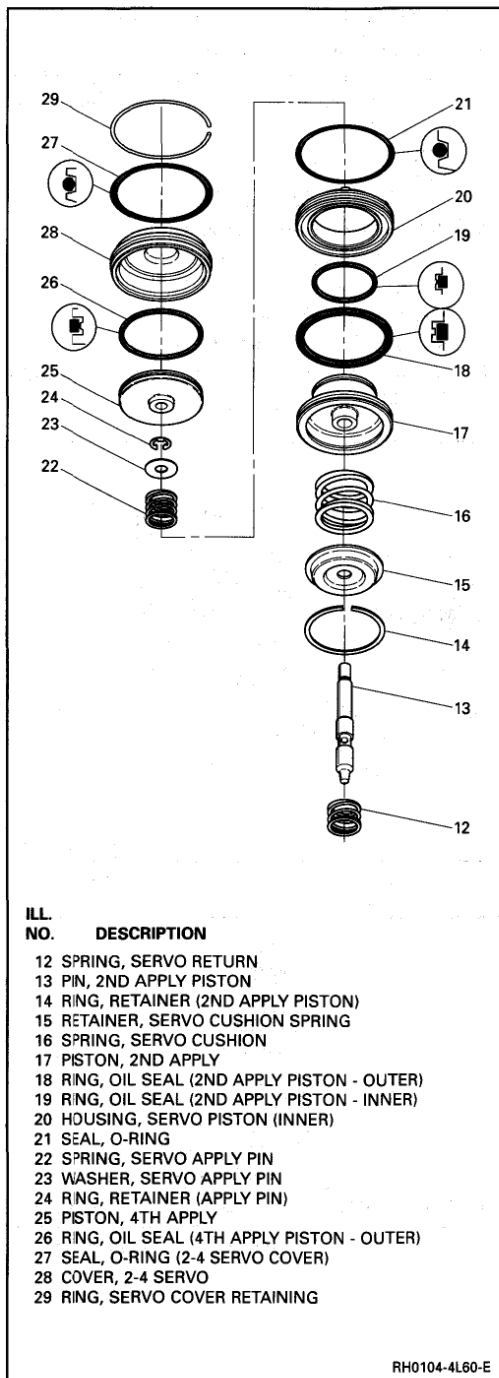

Figure 118 2-4 Servo Assembly
**Assemble****Figures 118 through 120**
1. Cushion spring (16) into the 2nd apply piston (17).
2. Cushion spring retainer (15) on the cushion spring.
- B. Install the retainer ring (14).
4. The 2nd apply piston (17) onto the apply pin (13)
5. Servo apply pin spring (22) on the pin.
6. Servo apply pin washer (23) and retaining clip (24).
7. Inner (19) and outer (18) seals on the 2nd apply piston (17).